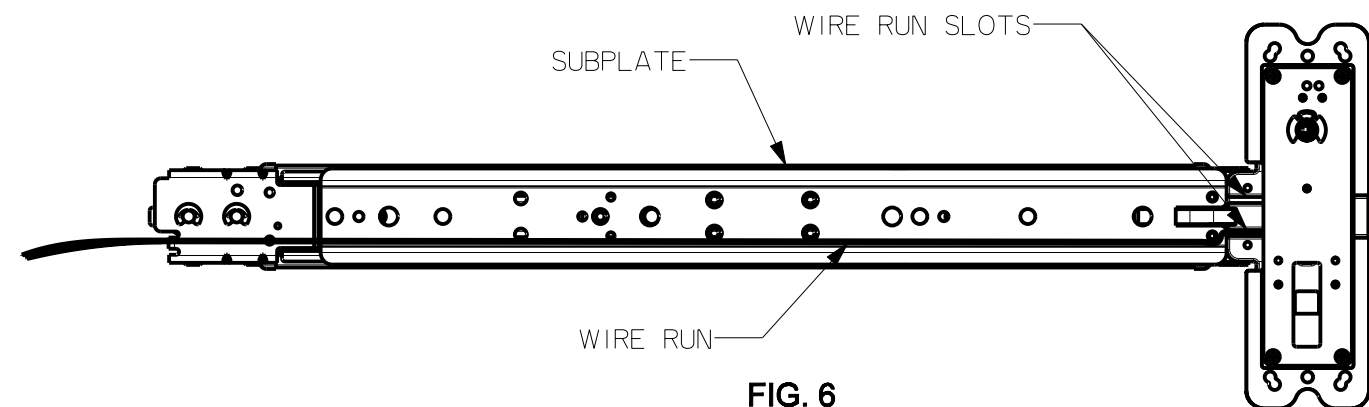

FIG. 6
- 3 - Carefully route the wires through the chassis, into the wire run slots and down the subplate. (Fig. 6) Secure wires with tape.